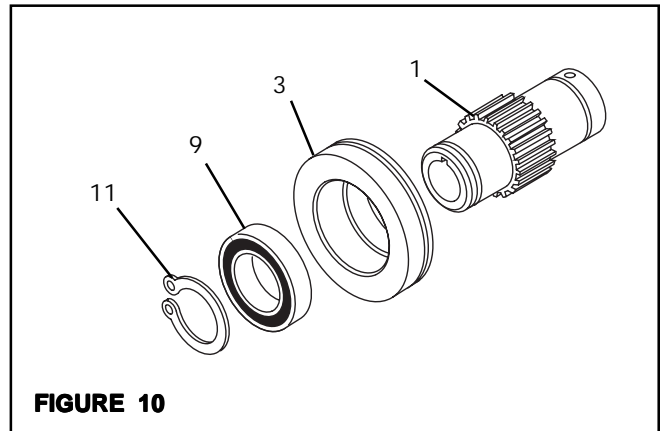

FIGURE 10
1. Remove Retaining Ring (Item 11) (See Figure 10).
2. Press Hub (Item 1) out of Piston (Item 3) and Ball Bearing (Item 9) (See Figure 10).